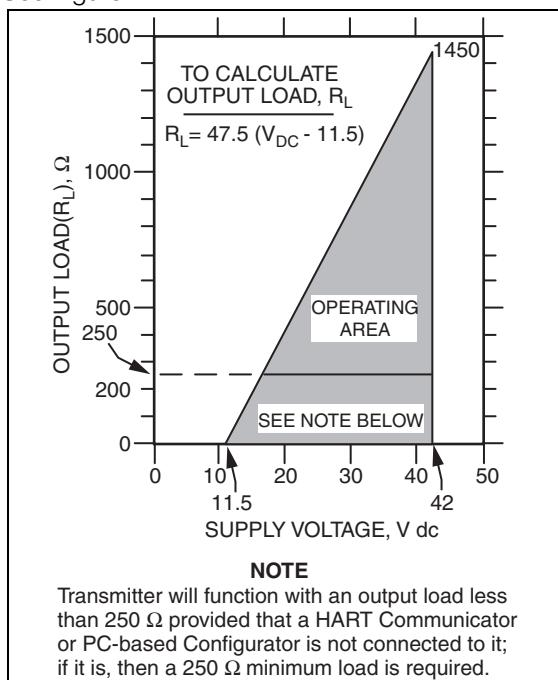

Figure 12. 4 to 20 mA Output,
See Figure 12.
- (g) See Figure 12 for minimum load required for proper HART communication.